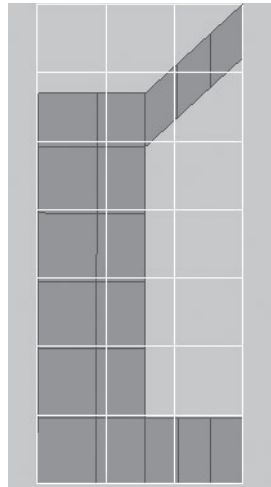

FIGURE 3.66 Lattice enveloping the sack.
40. Select Deform > Create Lattice. You should see the lattice enveloping the sack, as shown in Figure 3.66.